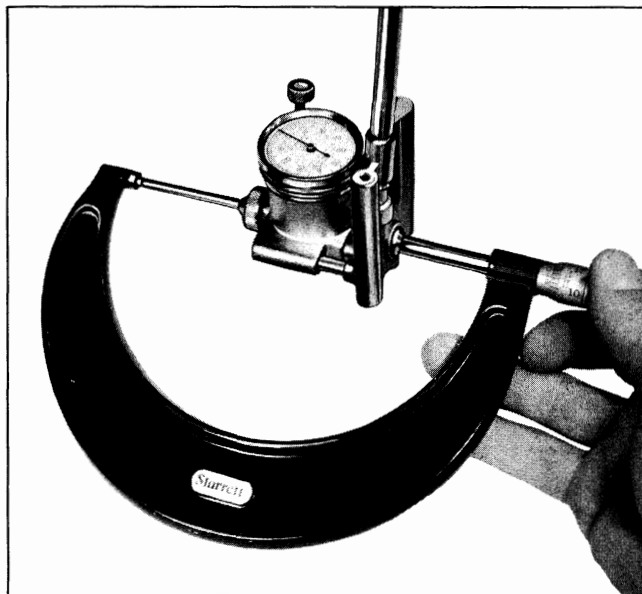

Fig. 6-66 Measuring Cylinder Gauge
1. Place pilot plunger and spring in the support base to be used as a pilot end stop. See Fig. 6-66 insert for the correct base support and pilot plunger for the type pistons being serviced.